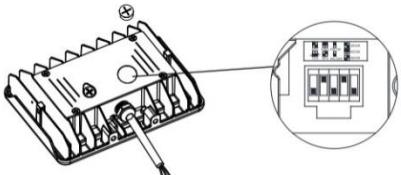

Figure 1
- 3:** Remove clear knockout from back of fixture to gain access to dip switches. Dip switches are used to change wattage, color temperature, and to enable/disable photocell. (Figure 1)